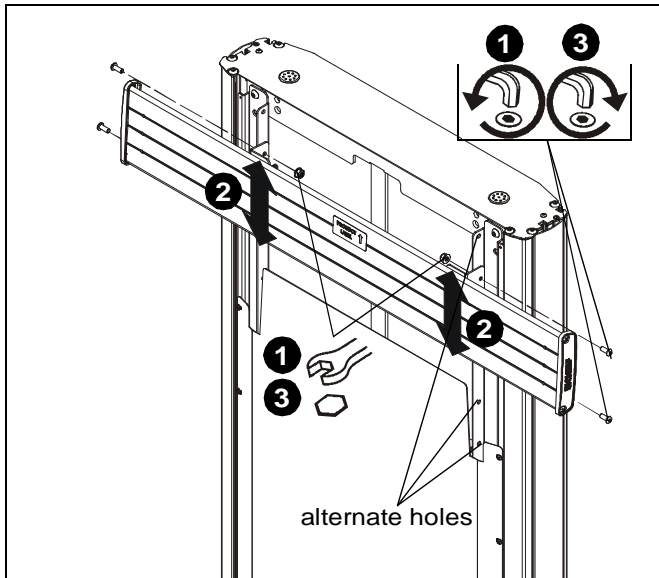

Figure 16
1. Remove four screws and nuts holding head assembly to vertical brackets on mount. (See Figure 16)
2. Adjust height of head assembly up or down lining up the holes on the brackets as desired. (See Figure 16)
3. Reinstall four screws and nuts removed in Step 1 to secure head assembly to vertical brackets on mount. (See Figure 16)